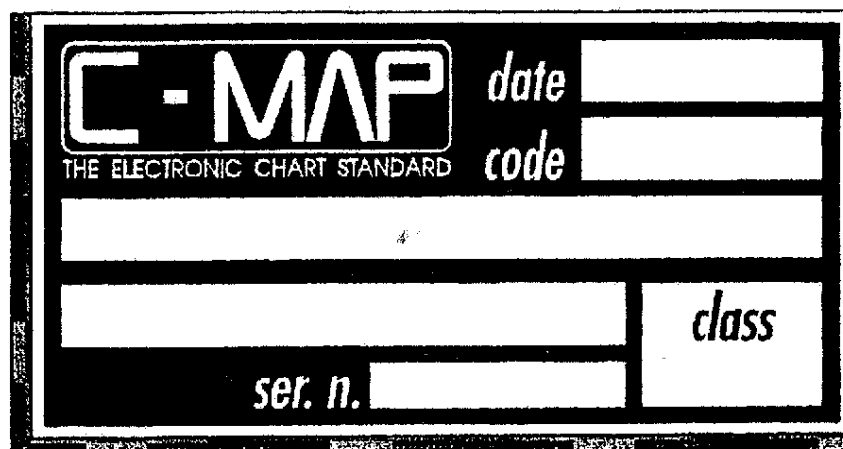

Fig. 2.4 - G-CARD
- Hold the G-CARD by the short smoothed side so that you can see the C-MAP label (see Fig. 2.4).